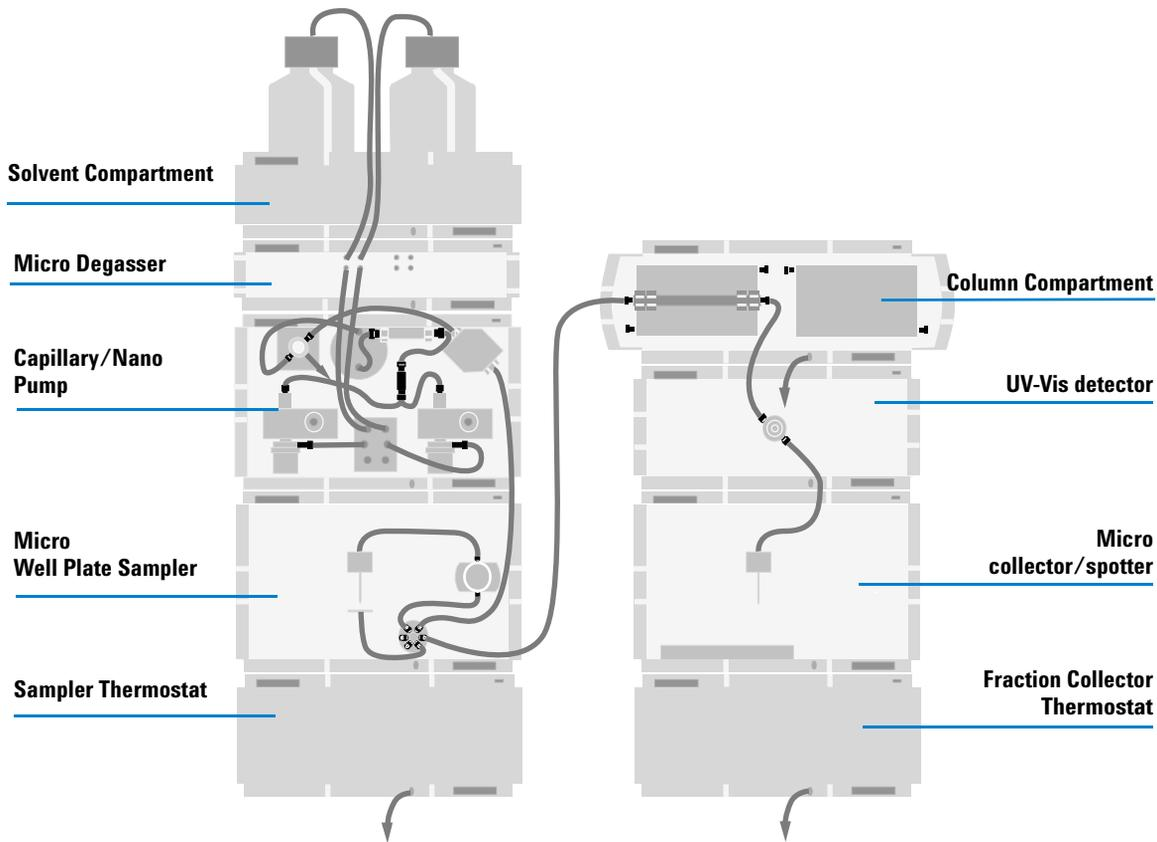

Figure 1 Recommend Stack Configuration for micro-scale collector/spotter in the capillary or nanoflow system
- Figure 1 on page 19 shows the configuration recommended for the micro-scale fraction collector/spotter within an Agilent 1260 Infinity Capillary or Nanoflow LC system